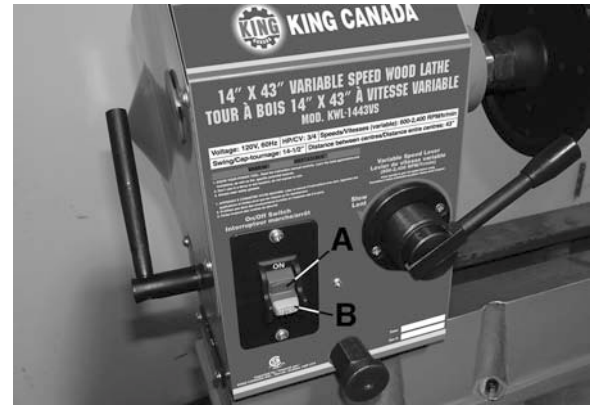

FIGURE 11
1. Your wood lathe is equipped with a safety toggle switch (A) Fig.11. To turn the machine on, push the switch up to the "On" position, to turn it off, push the switch down to the "Off" position. To prevent unauthorized use, this switch has a safety key (B) which, when removed, allows the switch to be locked in the "off" position. To lock the switch in the "off" position, place switch to "off" position and pull out the switch key.